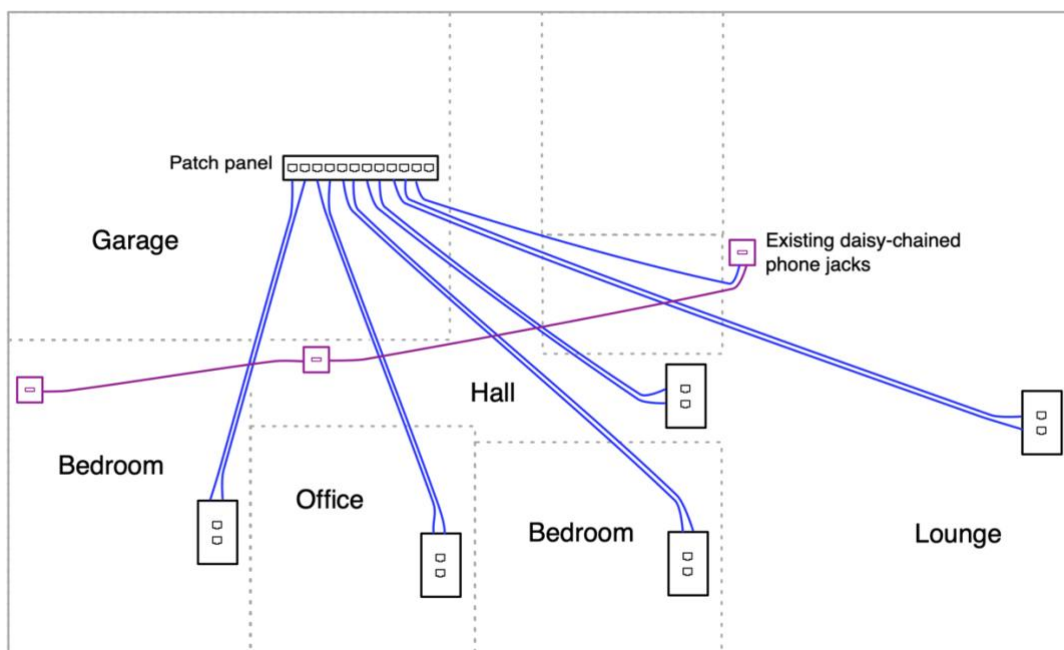

Figure 3 - Connecting existing telephone jacks
- 2.28. If you're working on an existing house which already has telephone jacks, one option is to leave them in place and integrate them with your new network cabling. This requires a cable run from the central point to one of the existing telephone jacks, which will be used to connect the old wiring to the new (see Figure 3 below).